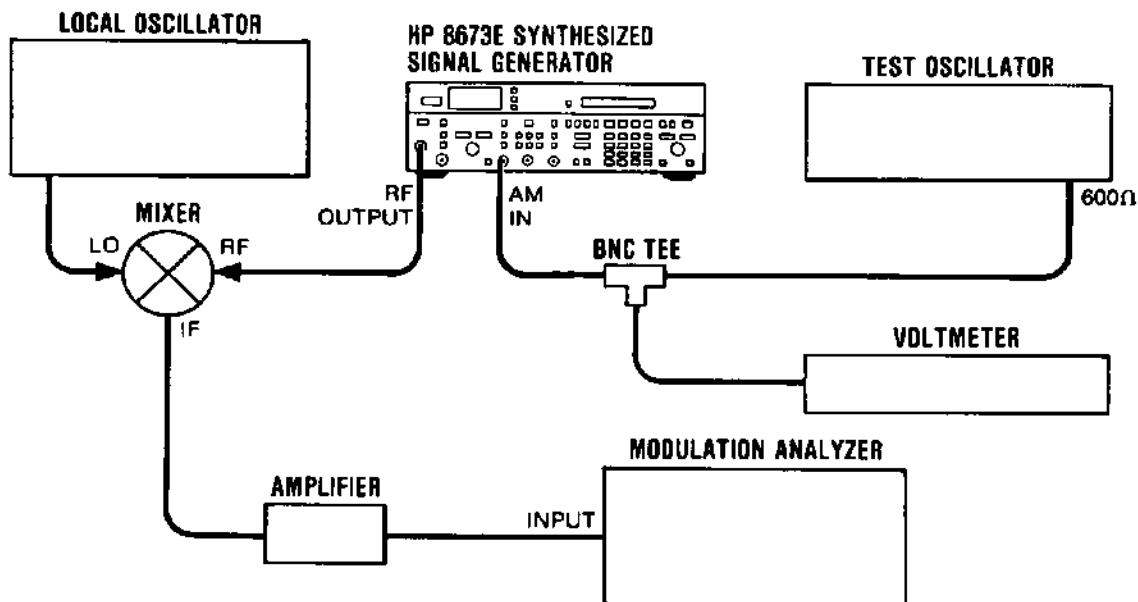

Figure 5-30. AM Accuracy and Meter Adjustment Test Setup
**Procedure** 1. Connect the equipment as shown in Figure 5-30.